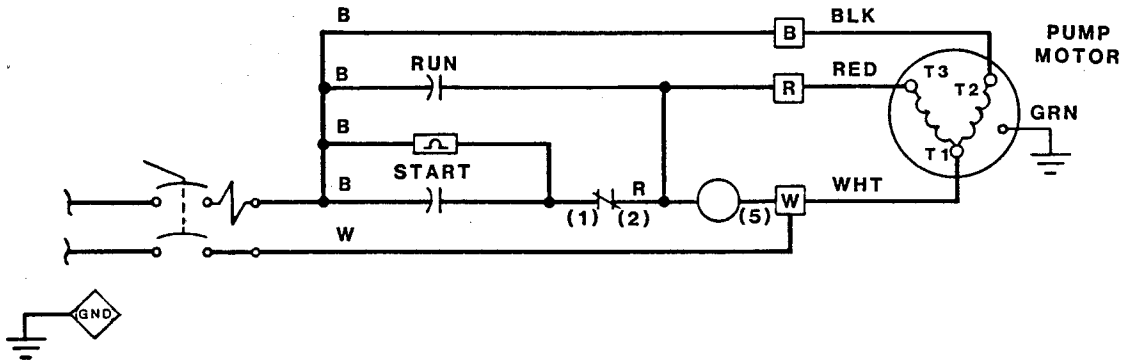

Figure 6. Elementary Wiring Diagram (Without Liquid Level Controls)
- a. Measure the incoming voltage across lines (1 & 2) while the pump is **operating at full capacity**. See Figure 6 on page B-14 or Figure 8 on page B-15.
Connect the pump power cable to the control box as shown in Figure 6 on page B-14 or Figure 8 on page B-15. Use conduit or cable clamps to secure the power and